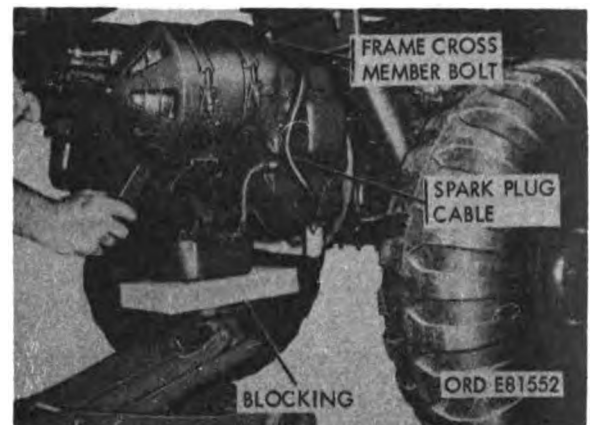

Figure 2-6. Locating position of floor jack and blocking under engine.
r. Position a floor jack with suitable blocking under engine (fig. 2-6) or use lifting eye and "A" frame, or small gantry if available.